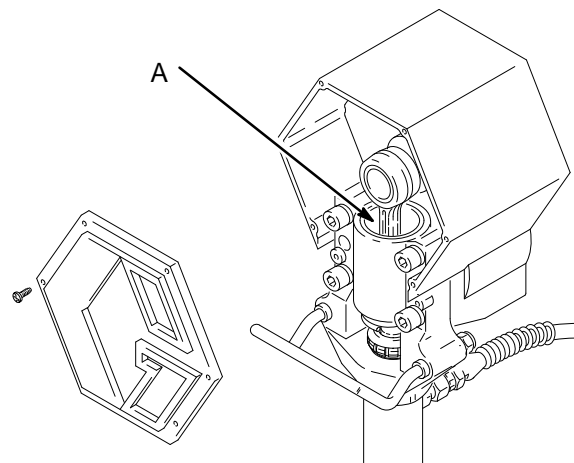
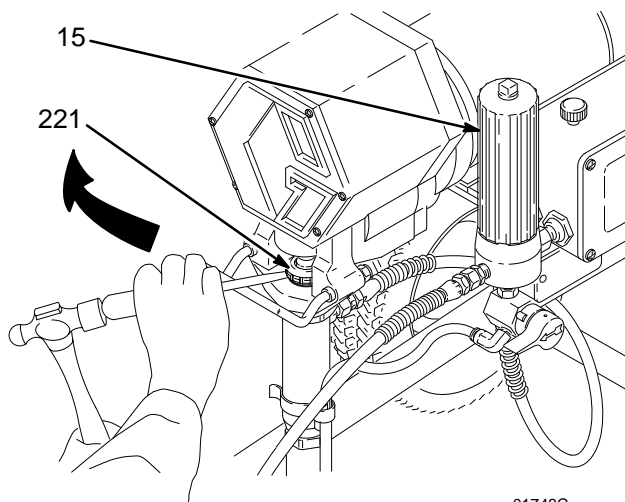

Fig. 4
Fig. 5
1. **Keep the packing nut/wet-cup (221) 1/3 full of TSL** (Throat Seal Liquid, supplied) at all times to help prevent fluid buildup on the piston rod and premature wear of packings. Follow the **Pressure Relief Procedure**, page 11, before adding TSL.
2. **Keep the packing nut/wet-cup just tight enough to stop leakage.** See Fig. 5. Overtightening causes binding and excessive packing wear. Follow the **Pressure Relief Procedure**, page 11. Then use a round punch or brass rod and light hammer to adjust the nut.
3. **Clean the fluid filter (15) often**, and whenever the sprayer is stored. Follow the **Pressure Relief Procedure**, page 11, before cleaning the filter.
4. **Lubricate the bearing housing (A) after every 100 hours of operation.** Follow the **Pressure Relief Procedure**, page 11. Remove the front cover. Fill the bearing housing cavity with SAE 10 non-detergent oil. See Fig. 4.